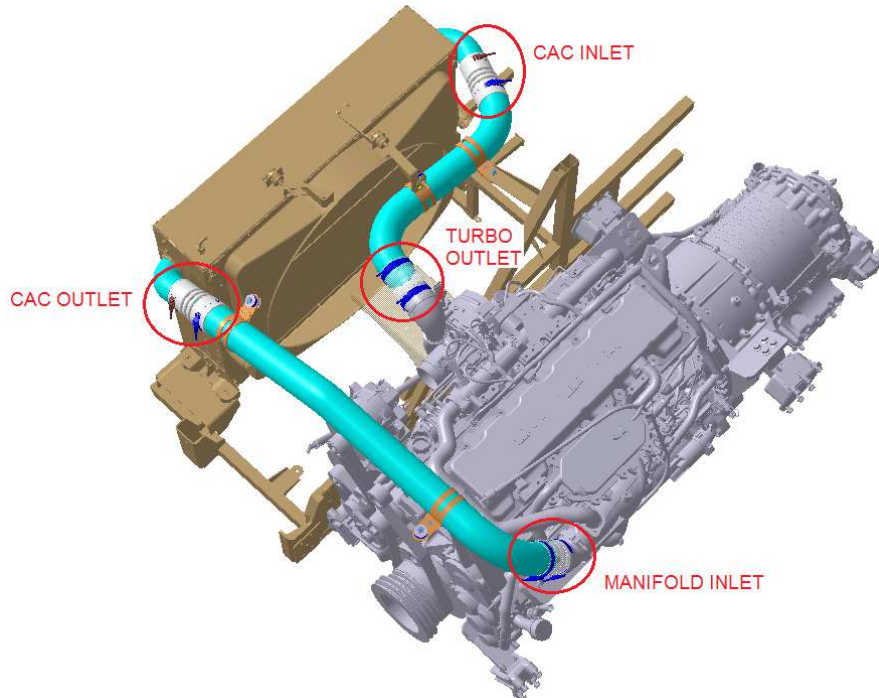

Figure-1
- 1- Location of the clamps to be replaced, see in. (see. **Figure-1**).